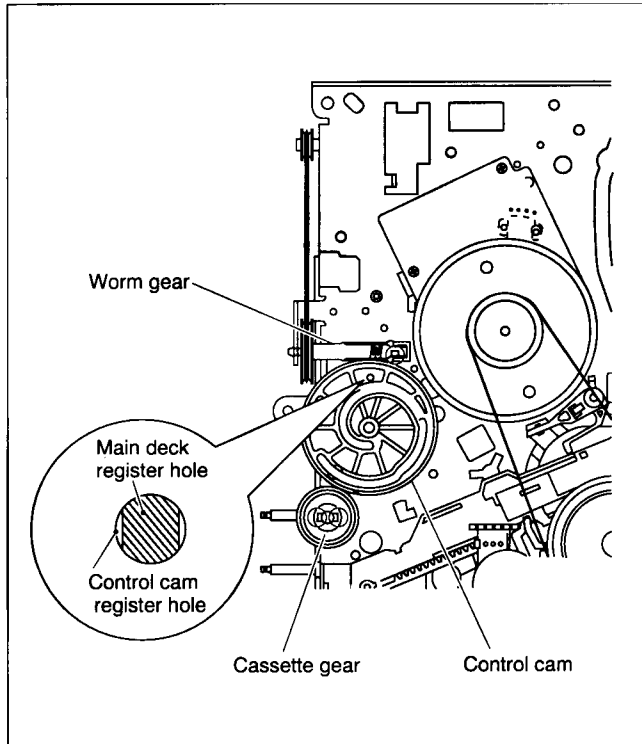

Fig. 2-3-4
- (1) Install the control cam as indicated in Fig.2-3-4 making sure of the front and back side alignment. Note here that the register hole of the control cam is in alignment with and allows passage through the register hole of the main deck. Perform fine-adjustment by turning the worm gear.
- (2) Install the cassette gear by pushing it until it is locked with a clicking sound. (See Fig.2-3-4)